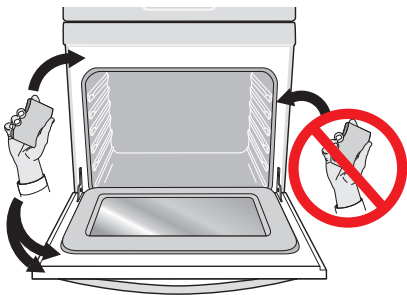

Figure 27: Clean around the oven door gasket
- Do not clean the oven door gasket (Figure 27) or use any cleaning materials on the oven door gasket. Doing so could cause damage. The woven material of the oven door gasket is essential for a good seal. Care should be taken not to rub, damage, or remove the gasket.
- Clean any soil from the oven frame, the door liner outside the oven door gasket, and the small area at the front center of the oven bottom. These areas heat sufficiently to burn soil on. Clean with soap and water. These areas are shown in white (Figure 27).